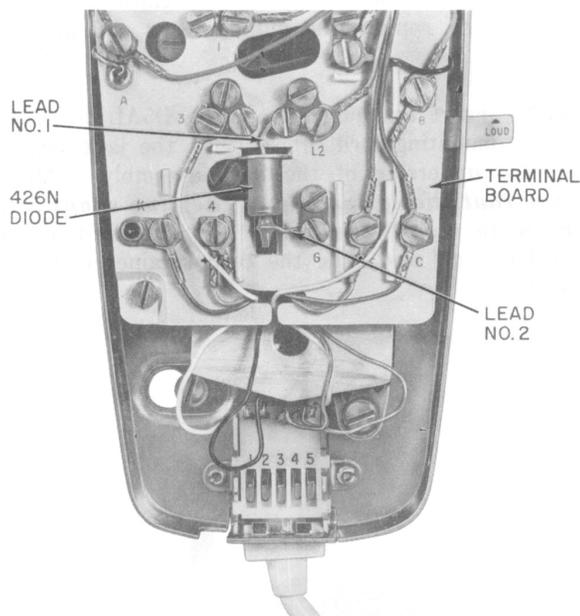

Fig. 10—426N Diode Installed
**3.14** A 426N diode must be installed in either the AC1 or AD1 base assembly when connecting for 4-party full selective or 8-party semiselective ringing. The two leads from the diode are designated No. 1 and No. 2. Lead No. 1 extends from the flanged (gold) base of the diode; lead No. 2 extends from the housing tip of the diode. Place the diode in the opening provided in the terminal board (Fig. 10). Dress the leads to the appropriate terminal board terminals, refer to Table E for connections.